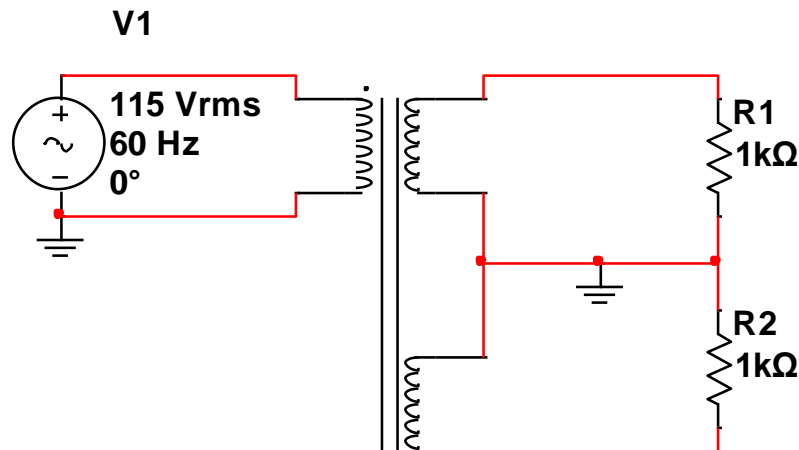

Figure 6 – Center-Tapped Transformer
1. **Build** the circuit in **Figure 6** in Multisim.